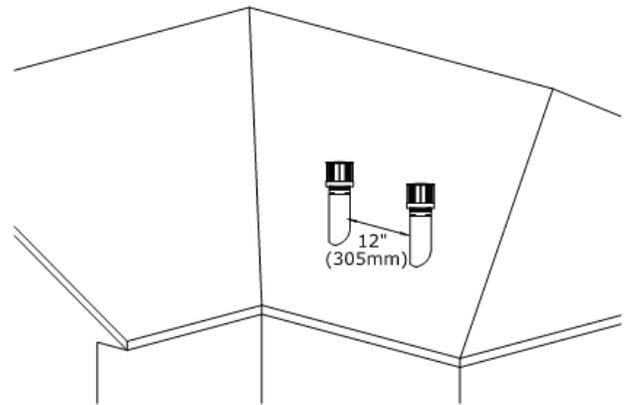

Figure 7.2 - Clearances Between Two Terminations
- Refer to Figure 7.2 below for clearance between two vertical terminations.